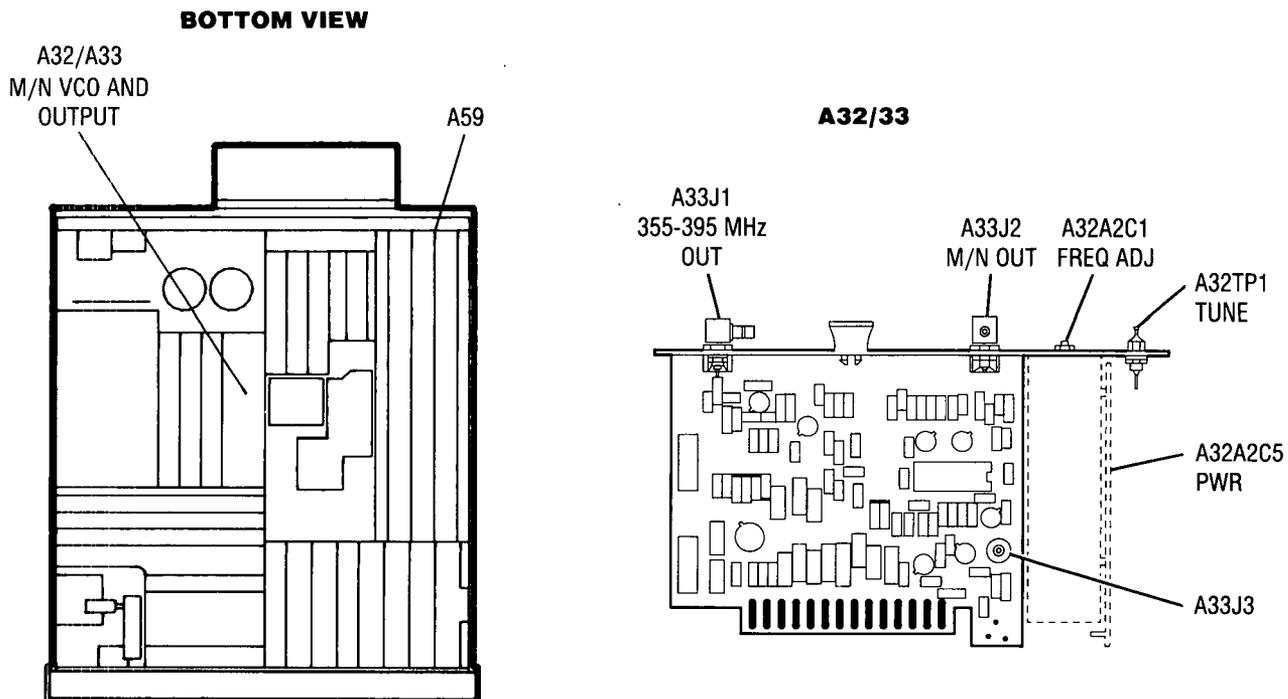

Figure 5-8. Location of M/N Loop Adjustments
6. Connect DVM to A32TP1 TUNE test point. Refer to Figure 5-8 for location of A32 assembly.
12. Disconnect the A32 output cable A32A1W1 from A33J3 (Figure 5-8) and connect this cable using SMB male-to-male adapter to the input of the spectrum analyzer. Set the DUT's LINE switch to ON and press **[INSTR PRESET]**.
15. Adjust A32A2C5 PWR for a VCO output level of 0 dBm ± 2 dB as indicated on spectrum analyzer. Refer to Figure 5-8 for location of adjustment.